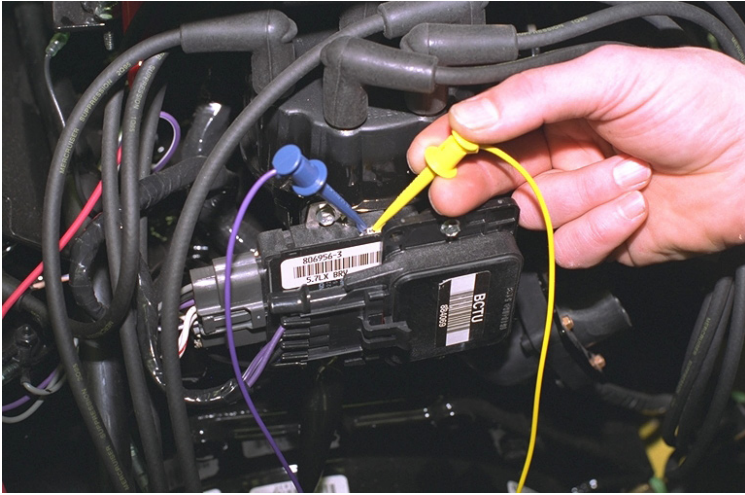

Figure 31 Thunderbolt V Data Terminals
- 3) Referring to Figure 30 and Figure 31, connect the YELLOW and VIOLET "mini-grabber" test clips to the Thunderbolt V's communication terminals as shown. The "mini-grabber" clips are designed to hook underneath the terminal pins. Pay careful attention, since the module's pins do not have any markings, to ensure connecting the colored leads to the proper terminals. Additionally, be sure the test clips form a good electrical connection with the Thunderbolt V's terminal pins.